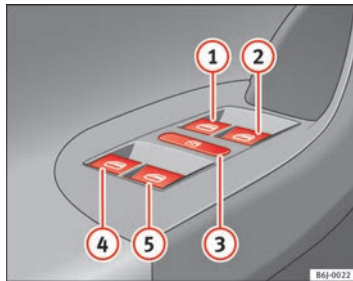

Fig. 51 Detail of the driver door: controls for the front and rear windows
Buttons ⇒ Fig. 51 ①, ②, ④ and ⑤ have two positions for opening windows and two for closing them. This makes it easier to open and close windows to the desired position.